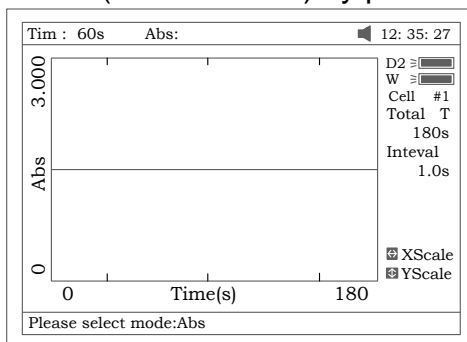

Fig 55
2. Select the test mode ("Abs" or "%T") by pressing **[F2]** (Fig 55).